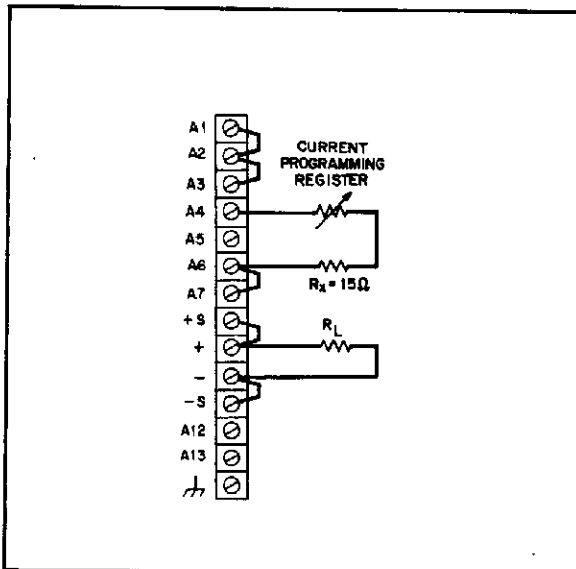

Figure 3-8. Resistance Programming of Output Current
**3-44 Constant Current Output, Resistance Control.** The rear panel connections shown in Figure 3-8 allow the output current to be varied by using an external resistor to program the supply. The supply's constant current programming current, which is factory adjusted to  $500\mu\text{A} \pm 7\%$  determines the exact value of its programming coefficient of 100 ohms per Ampere. If the 7% accuracy of this coefficient is not adequate, it may be adjusted to within 0.5% with internal potentiometer A1R1 (refer to Section V).
**3-45** Resistor  $R_X$  (15 ohms) replaces internal resistor A1R3 which is disconnected, along with the front panel current control, by the connections of Figure 3-8. This resistor provides a small amount of end resistance so that the output current can be adjusted to exactly zero (by A1R6) when the current programming resistor is shorted, or set to minimum. Section V gives the adjustment procedure for zeroing the output current using the internal offset adjust potentiometer, A1R6.